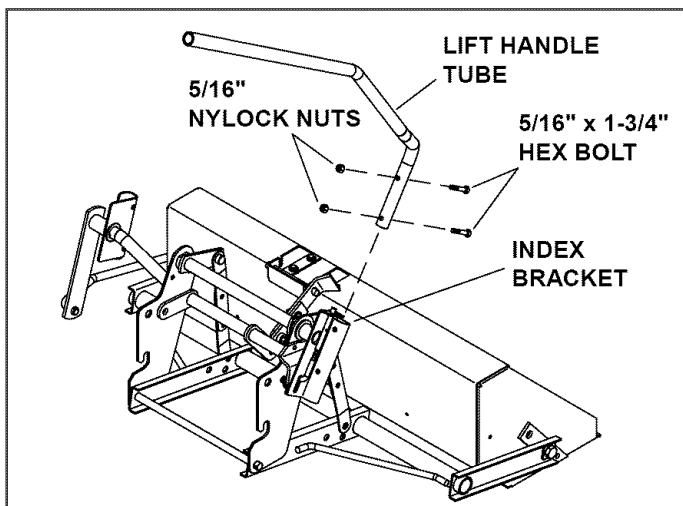

FIGURE 10
- Install the lift handle tube on the index bracket using two 5/16" x 1-3/4" hex bolts and 5/16" nylock nuts. See figure 10.